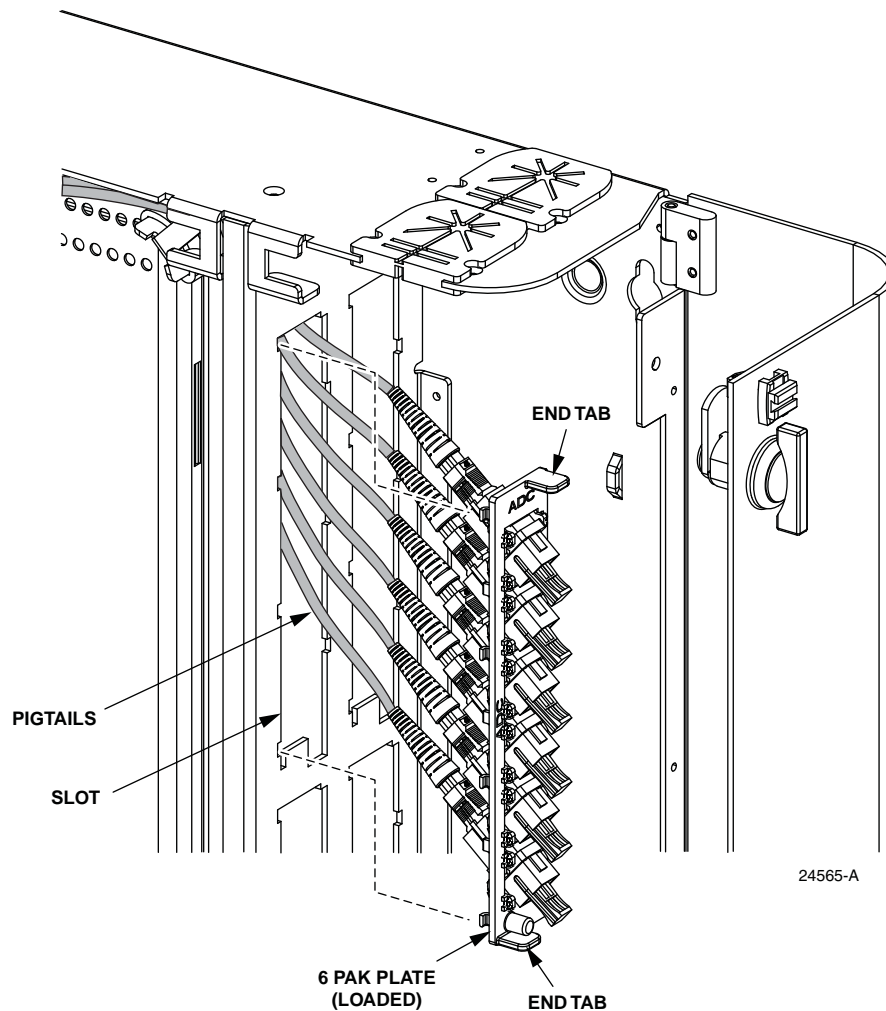

Figure 13. Installing a 6Pak Plate with Pigtails in a Wall-Mount Box
1. If the 6pak plate has attached pigtails, thread the pigtails through the empty mounting slot and loop the pigtails around the radius limiters in the chassis, as shown in Figure 13 below.